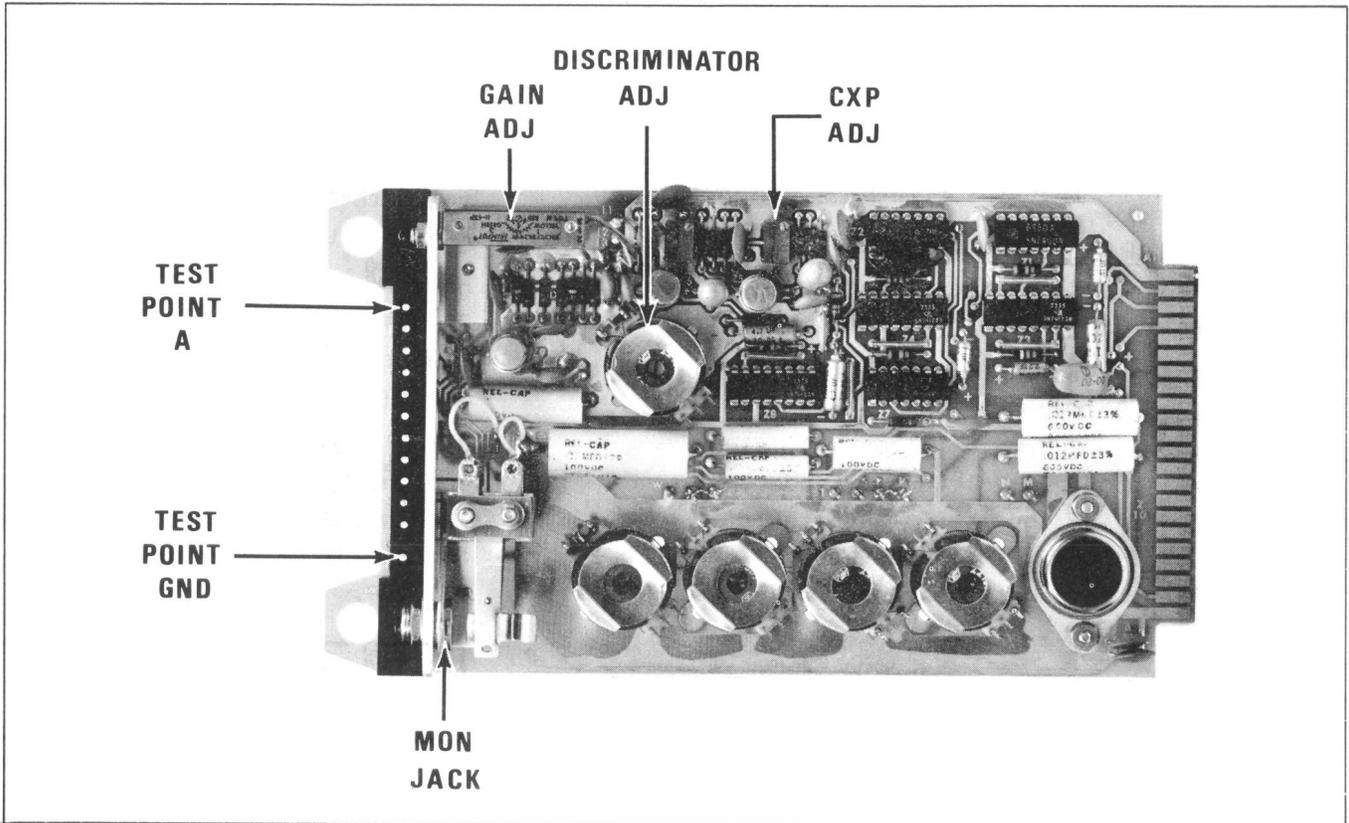

Figure 29 - Card 001483—Component Arrangement
4. Using a nonmetallic adjustment tool, carefully adjust the DISCRIMINATOR ADJ slug (Figure 29) for a minimum reading, typically 0.1 VDC.
5. With the screwdriver, adjust the CXP ADJ trimpot (Figure 29) until relay K1 on Card 001558 (Figure 17) just drops out. This is the carrier presence threshold.